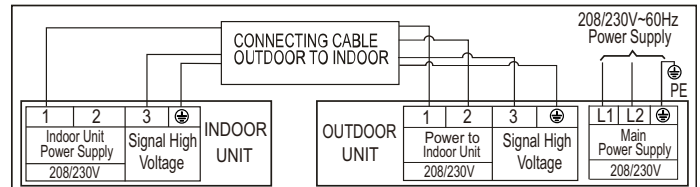

Fig. 20 — Sizes 9,12,18,24,30, 36K (208/230V)
2. All connections between the indoor and outdoor units must be made as shown in Figure 20. The connections are sensitive to polarity and will result in a fault code.